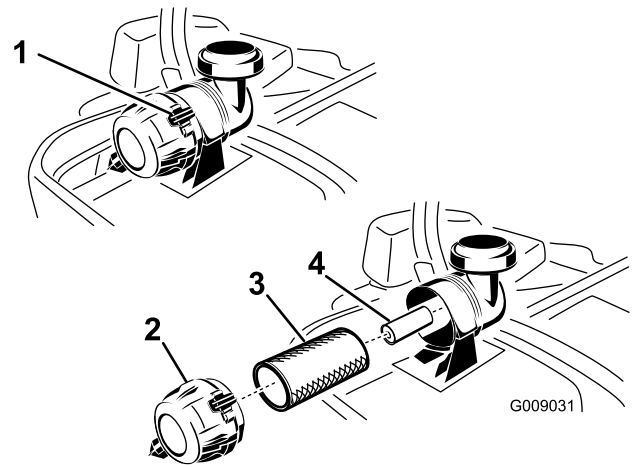

Figure 40
3. Push down to release the retaining clamps on the air cleaner and pull the air cleaner cover off of the air cleaner body (Figure 40).
5. Gently slide the primary filter out of the air cleaner body (Figure 40). Avoid knocking the filter into the side of the body.
1. Do not clean the paper filter, replace it (Figure 40).
2. If the secondary filter is being replaced, carefully slide it into the filter body (Figure 40).
3. Carefully slide the primary filter over the secondary filter (Figure 40). Ensure that it is fully seated by pushing on the outer rim of the filter while installing it.
4. Install the air cleaner cover with the breather cap down and rotate so the retaining clamps lock the cover in place (Figure 40).